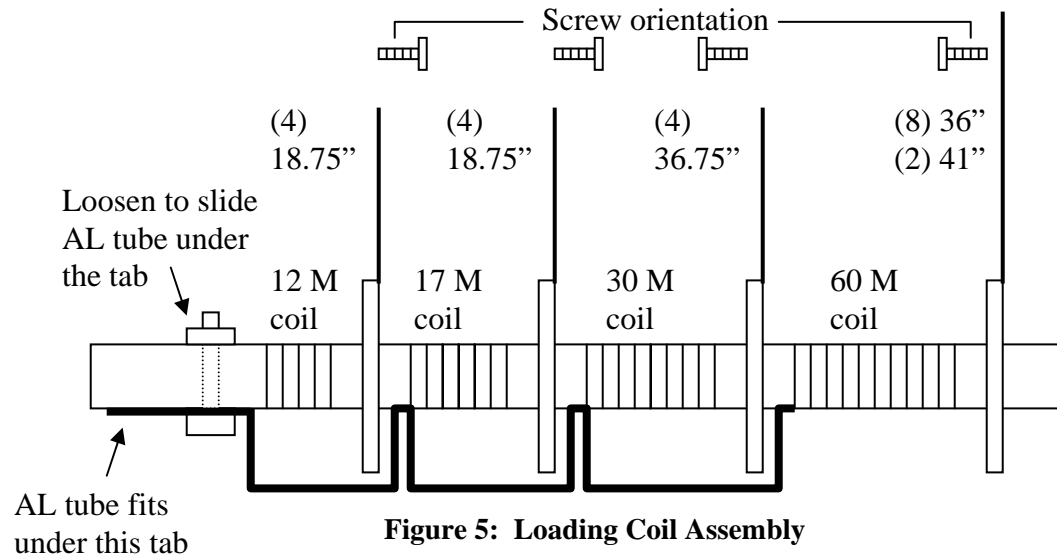

Figure 5: Loading Coil Assembly
- 8) Install the 6-32 screws in all rings of both loading coil assemblies, loosely holding them in place with their associated nuts. Position the screws so the threaded ends of the screws are pointed outward towards the two ends of each loading coil assembly as shown in Figure 5. .
- 14) Loosen the mounting screw indicated in Figure 5 so that the aluminum radiator can be slid under the aluminum tab. Slide the aluminum radiator tube until it contacts the mounting screw that was just loosened. Tighten the mounting screw. ***Do not over-tighten this screw or you may BREAK the fiberglass form.*** Slide the hose clamp over the tab and tighten the hose clamp to firmly attach the loading assembly to the aluminum radiator.